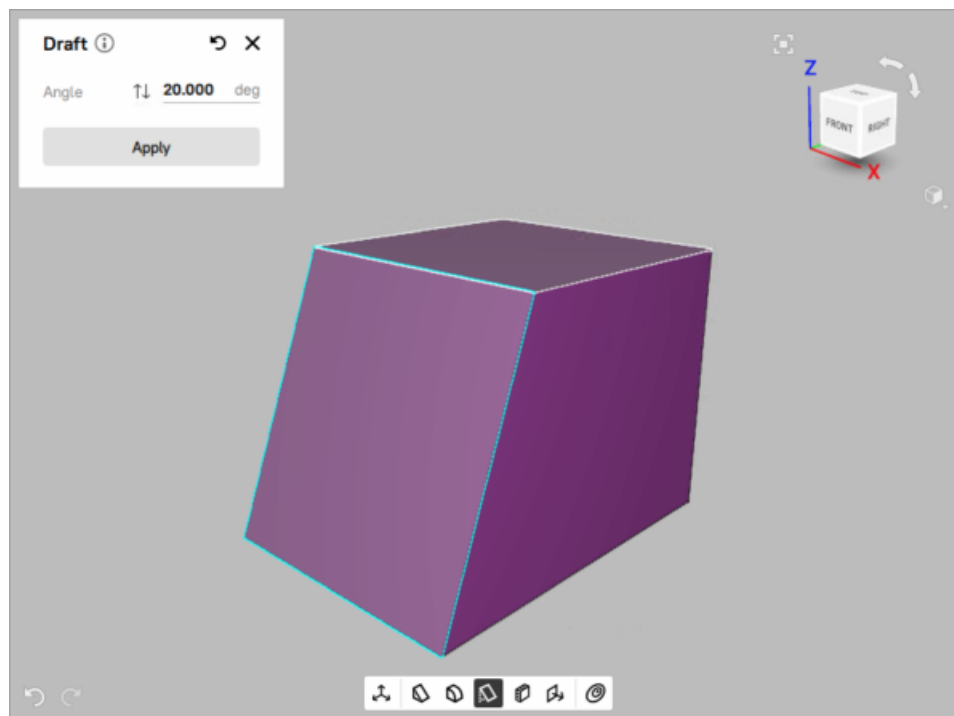

Figure 99: The created draft at 20°angle
5. Click the *Apply* button to save the created draft (see Figure 99).